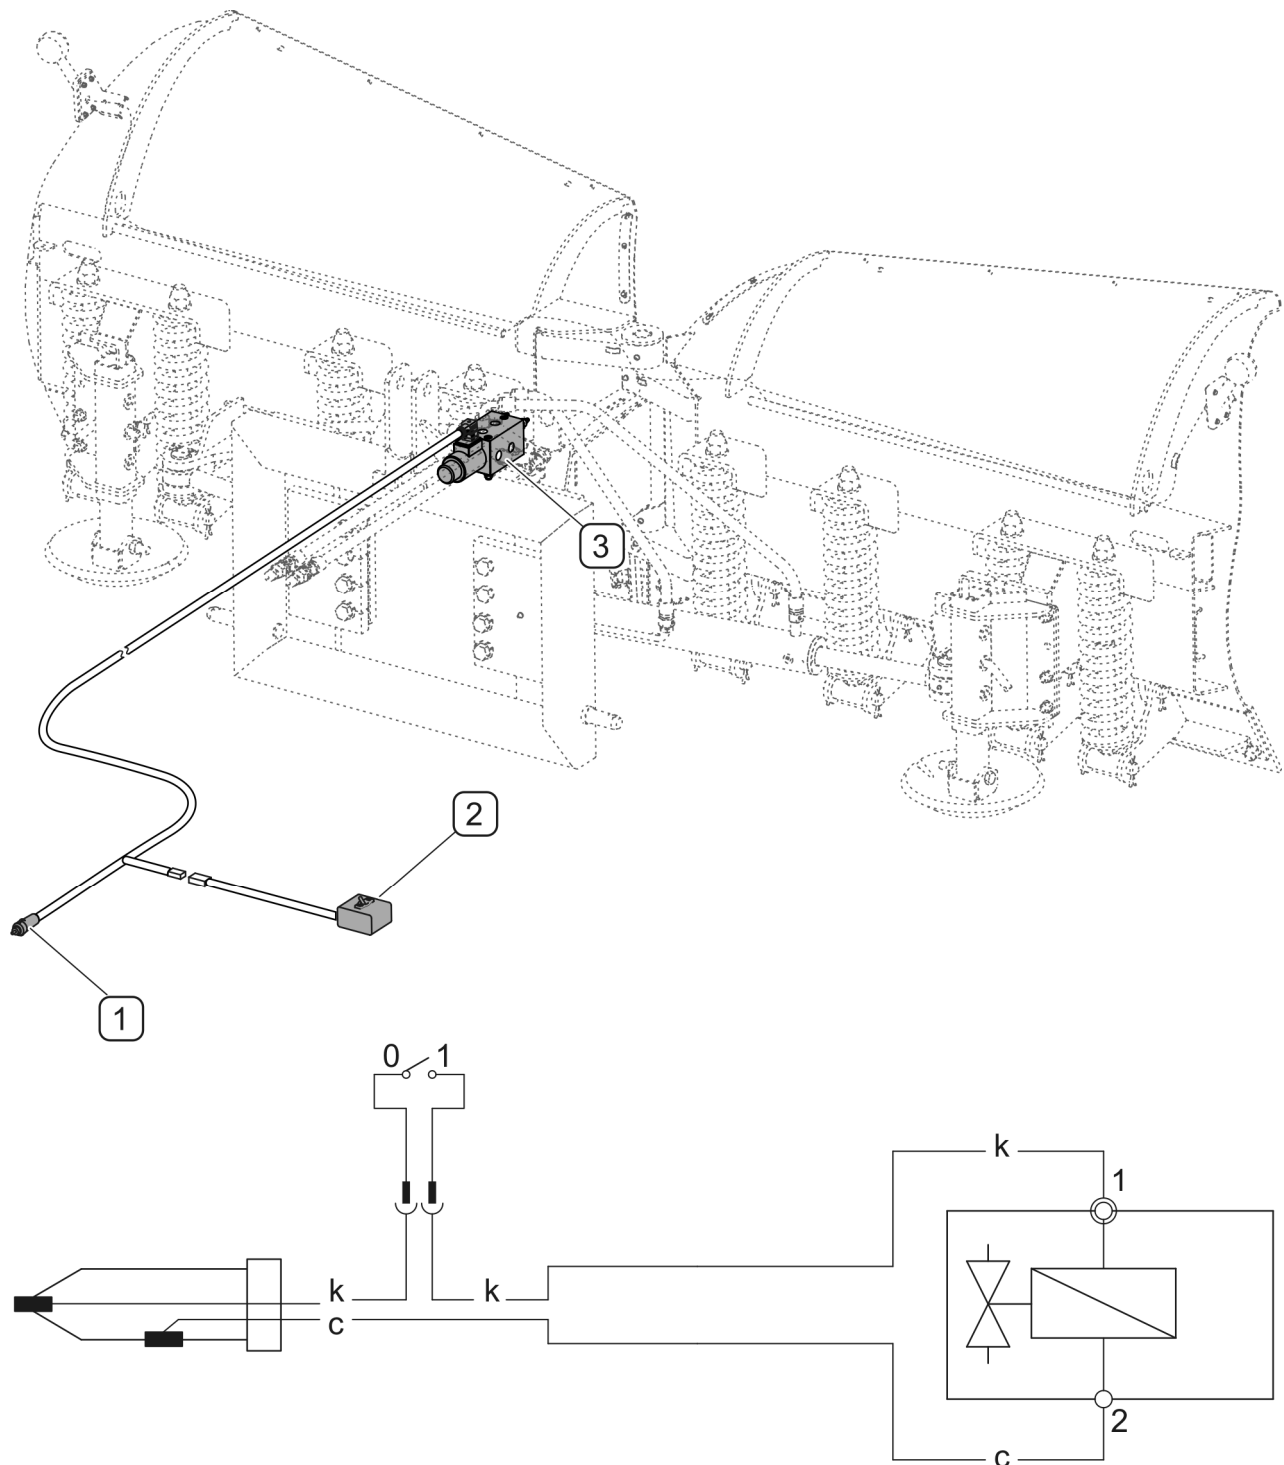

FIGURE 3.5 Design of solenoid valve electrical control system
(1) - cigarette lighter plug; (2) - switch; (3) - solenoid valve;
The electrical system (FIGURE 3.5) is used for controlling the hydraulic solenoid valve (3) and is supplied using 12V cigarette lighter plug from the carrying vehicle's electrical system.